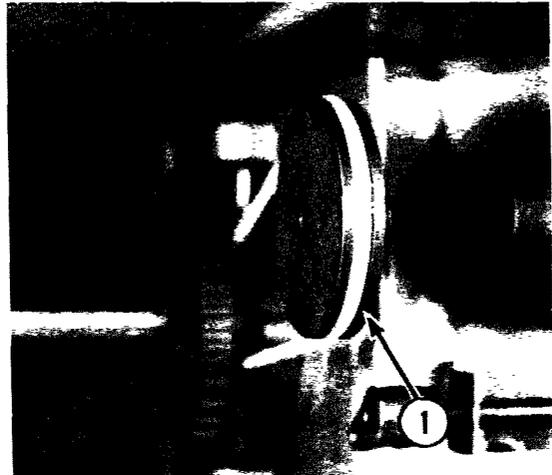

Fig. 2-25
- (1) Remove the attachment hub. (Refer to Attachment Hub and Bearing Removal).
- (2) Lift the bowl cover and remove it from the hinge pin.
- (3) Remove the comb and knife assembly.
- (4) Remove the bowl.
- (5) Using a support so the electrical cord will not be damaged, lay the machine on its back.
- (6) Remove the bottom cover and leg assembly from the bottom of the housing.
- (7) Loosen the four nuts on the motor mounting studs and remove the Flexa-Gear belt from the motor pulley.
- (8) Remove the round belt from the bowl drive pulley (1, Fig. 2-25).